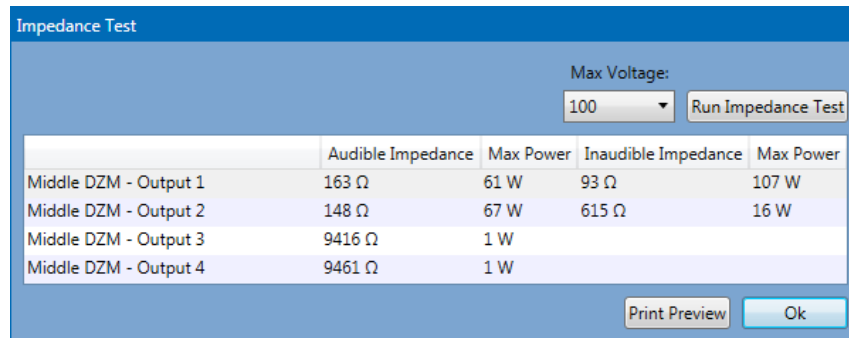

Figure 4-30: Line Impedance Check Window (shown for 5404DZM)
- Line Impedance Check** Call up the speaker line impedance check form. This is a useful installer tool shown in Figure 4-30 and described below.